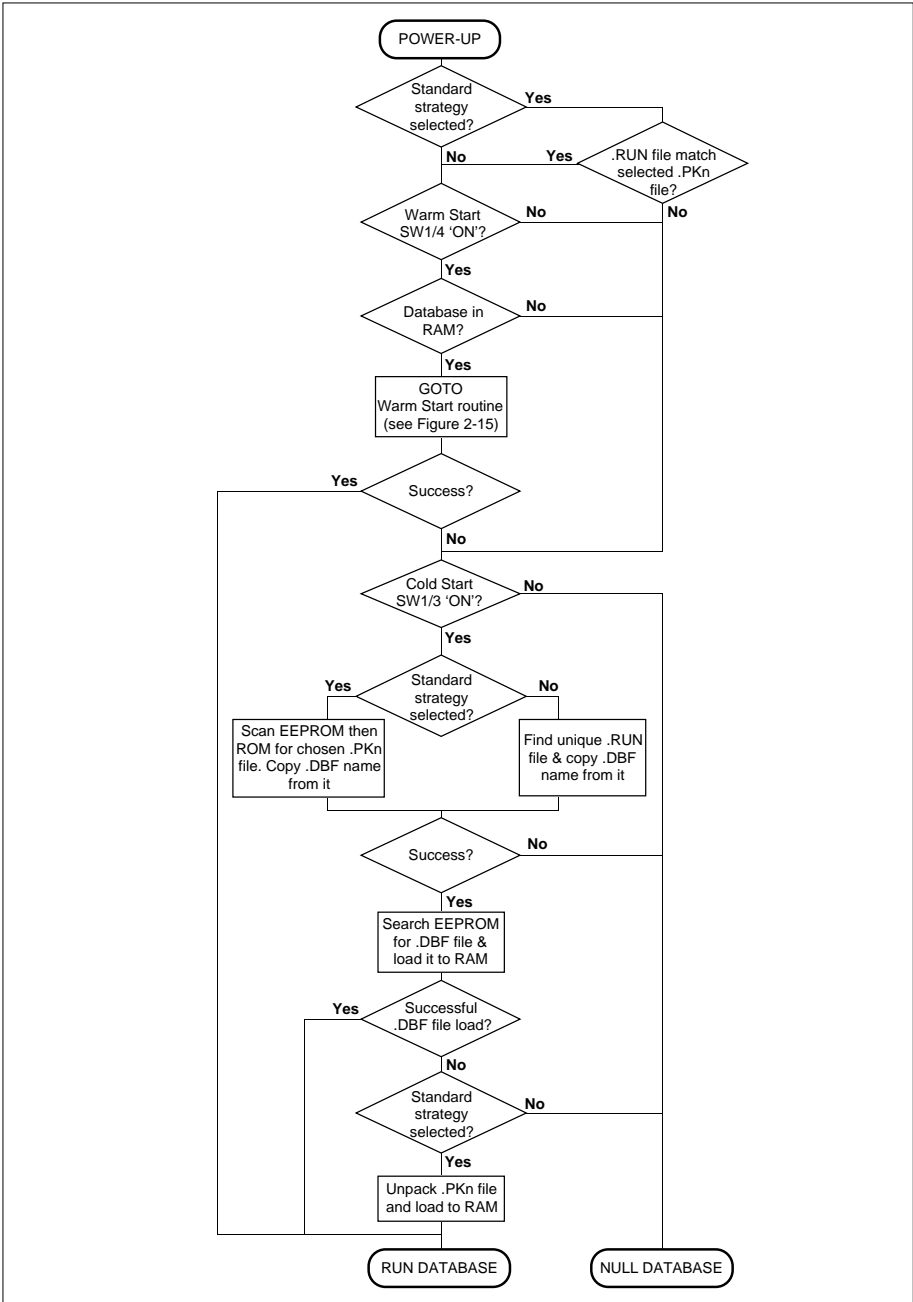
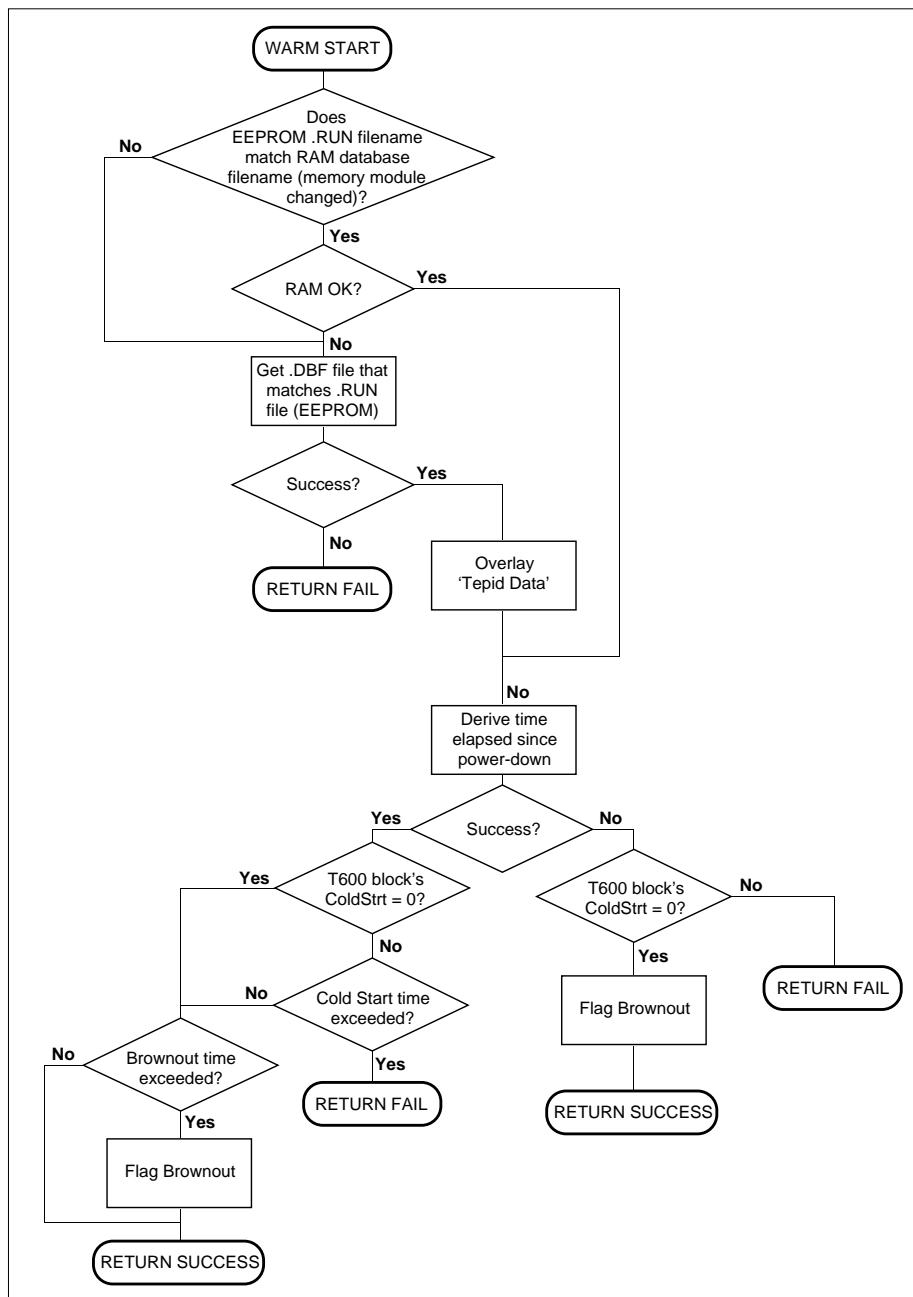

Figure 2-14 T640 power-up routine
Figure 2-15 T640 warm start routine (& see Figure 2-14)
Figure 2-14 charts the events that occur when T640 is powered up. Figure 2-15 shows the warm start routine that may be called during power-up, and should be read in conjunction with Figure 2-14. As there is no hardware realtime clock in the T640, it must derive elapsed time since power-down (needed in the warm start routine) from a clock it maintains over the peer-to-peer communications. If this is not possible, power-up follows the alternative route shown in Figure 2-15. After loading, the entire database is subjected to a sumcheck test.
At the end of each task iteration a package of data is assembled in a .TPD file in RAM, ready to be written to EEPROM should a power-down occur. This data — ‘tepid data’ — includes each loop’s local setpoint (SL), output (OP), and operating mode (MODE). In the event of a power-down, there is enough time for the tepid data in the .TPD file to be transferred rapidly to EEPROM, ready to be used if required during a subsequent warm start routine (see Figure 2-15). The tepid data is ‘coherent’ (see Chapter 8, *Data Coherence*) because it is assembled only from completed tasks.
DIL switchbank SW1, switches 3 and 4, determine how T640 starts up after a power interruption — as charted in Figures 2-14 and 2-15. For normal T640 operation both switches should be ‘ON’ to provide full warm start and cold start capability.